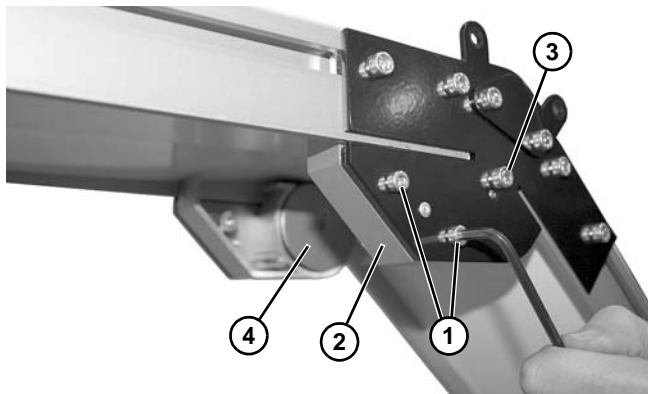

Figure 52
5. Remove screws (**Figure 52, item 1**) and remove guard (**Figure 52, item 2**) on both sides of knuckle.
6. Remove screw (**Figure 52, item 3**) and remove roller bearing assembly (**Figure 52, item 4**) on both sides of knuckle.